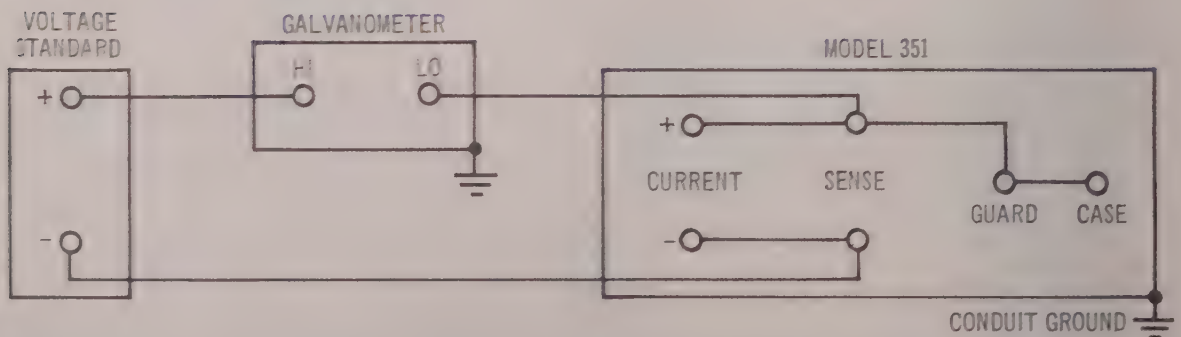

Figure 4-5. Accuracy-Adjustment Calibration Setup
2. Connect instrument to galvanometer and voltage standard as in Figure 4-5.